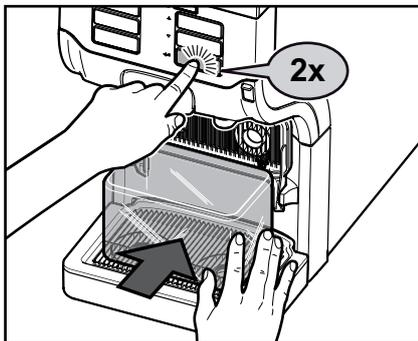

Fig. 32
2. Place the flush bin under both product outlets and press the enter button ◀ (fig. 32).
3. Press the enter button ◀ to start the flushing process (fig. 32).